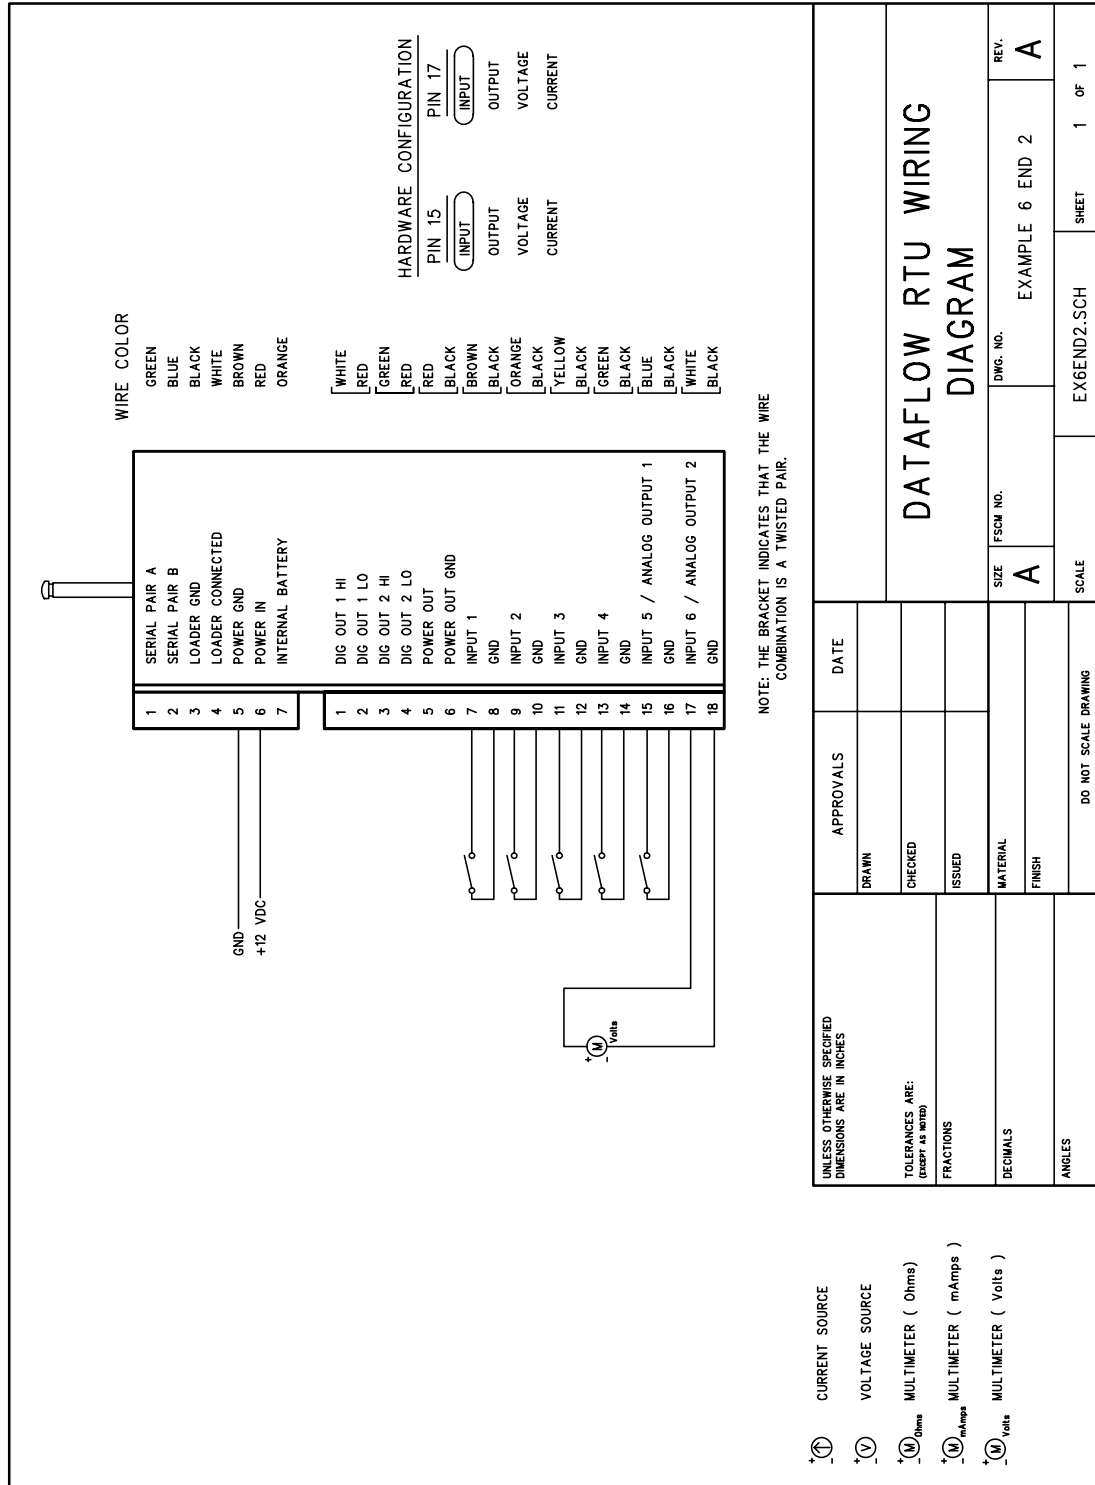

Figure B12 - EXAMPLE 6 RTU ID 2 Wiring Diagram
- 8.7.1 RTU ID 1 SETUP: Example 6 requires one **DATAFLOW RTU** to be wired and its hardware configured according to Figure B12 - EXAMPLE 6 ID 1 Wiring Diagram on page B-36. Load Software Programming configuration file **EXP6ID1.USR** into RTU ID 1.
- 8.8.1 RTU ID 1 SETUP: Example 7 requires one **DATAFLOW RTU** to be wired and its hardware configured according to Figure B12 - EXAMPLE 6 ID 1 Wiring Diagram on page B-36. Load Software Programming configuration file **EXP7ID1.USR** into RTU ID 1.